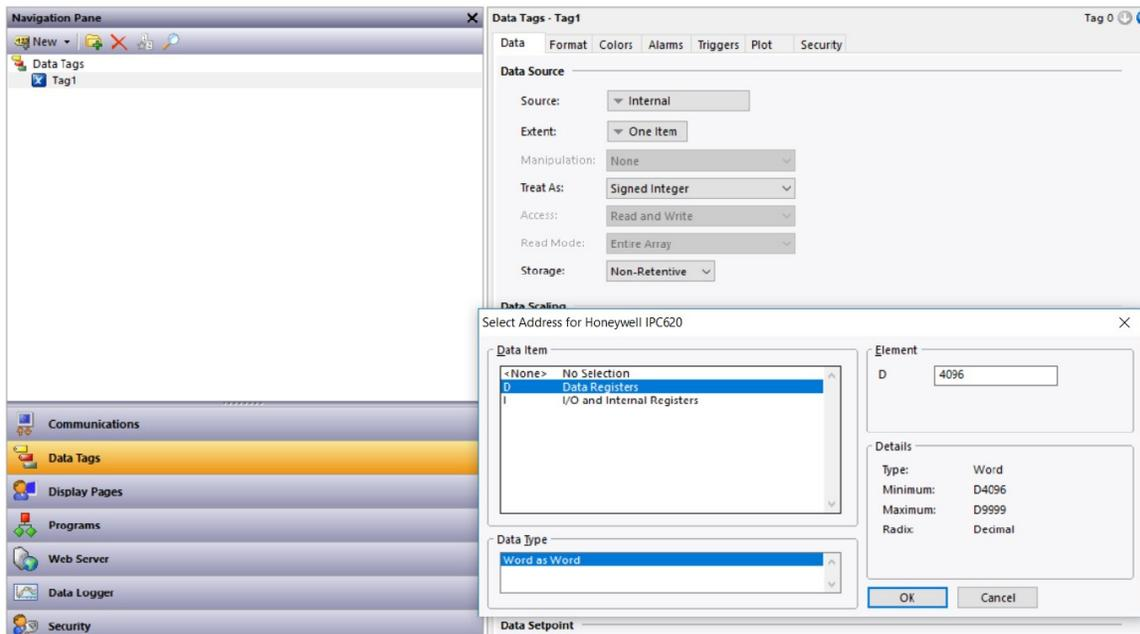

Figure 4.
- Referring to Figure 4, go to the Navigation Pane and select the newly created Data tag; *Tag1*.